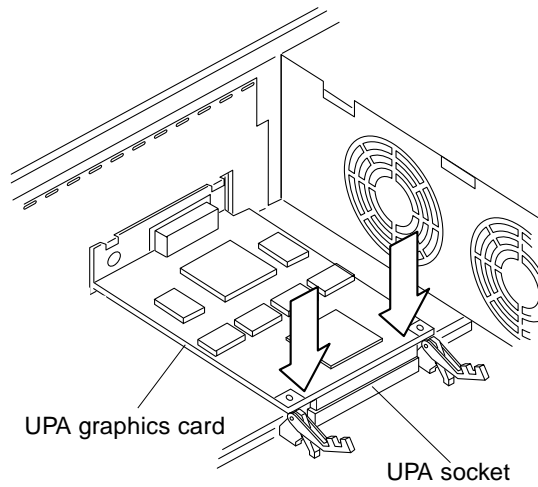

FIGURE 10-12 Seating a UPA Graphics Card into the Socket
5. **Carefully press both corners of the UPA graphics card evenly to seat the UPA graphics card connector into the UPA socket** (FIGURE 10-12).